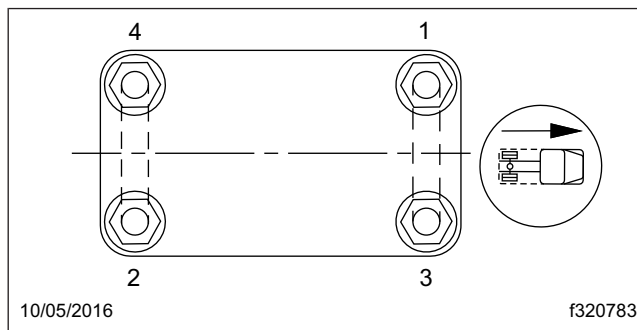

Fig. 8, Tightening Pattern for U-Bolt High Nuts
2. Check the U-bolt torque in a diagonal pattern. Set a click-type torque wrench to the highest torque value for the fastener being checked. See Fig. 8 for the tightening pattern. See Table 1 for U-bolt torque specifications. Turn the wrench in a clockwise motion (looking up) until the torque wrench clicks.
* Tighten in a diagonal pattern as shown in Fig. 8.